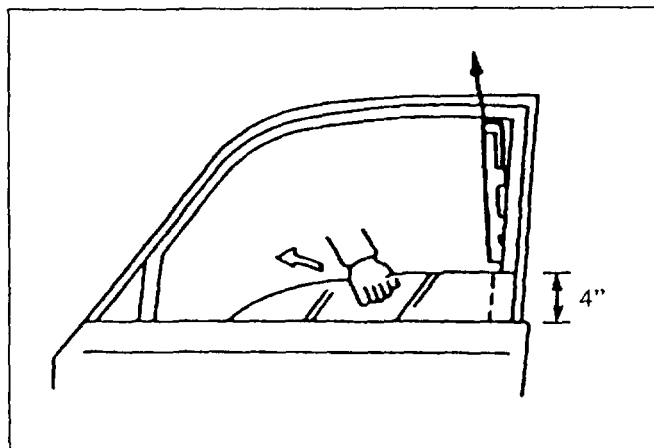

Figure 7: Front door
2. Lower the window glass to about 4" showing. Pull the glass guide rail toward the inside of the window frame and up. Move the window glass toward the front of the vehicle. **Figure 7.**